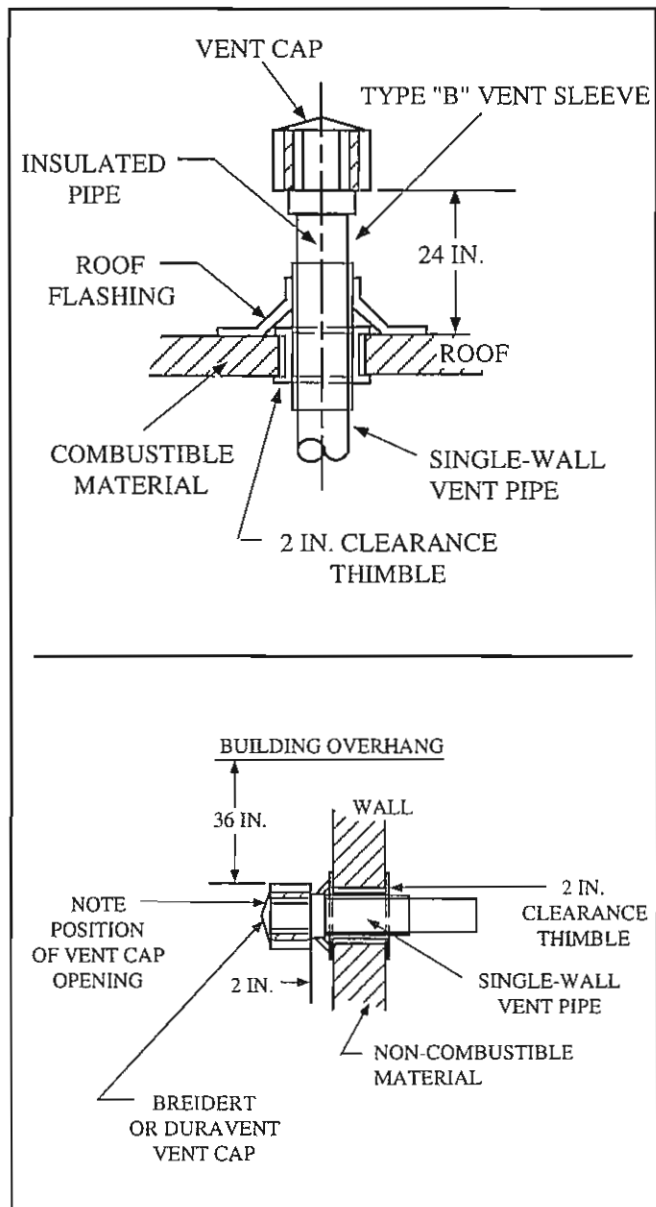

Figure 1-15
- Stacks may consist of a 10-ft section of radiant tubing, if desired. Single-wall galvanized flue pipe must be used. The portion of the flue pipe which goes through combustible material in the building wall or roof must pass through a type "B" vent sleeve to maintain clearances (see Figures 1-15 and 1-16). See the Flue Venting Chart for maximum stack lengths.
- Stacks may exit the building either horizontally or vertically. Vertical venting exiting the roof should be 2 ft above the roof. For horizontal venting, the flue should be 2 in. from the sidewall. Care should be exercised to ensure that vent opening is beyond any combustible overhang (see Figure 1-15).